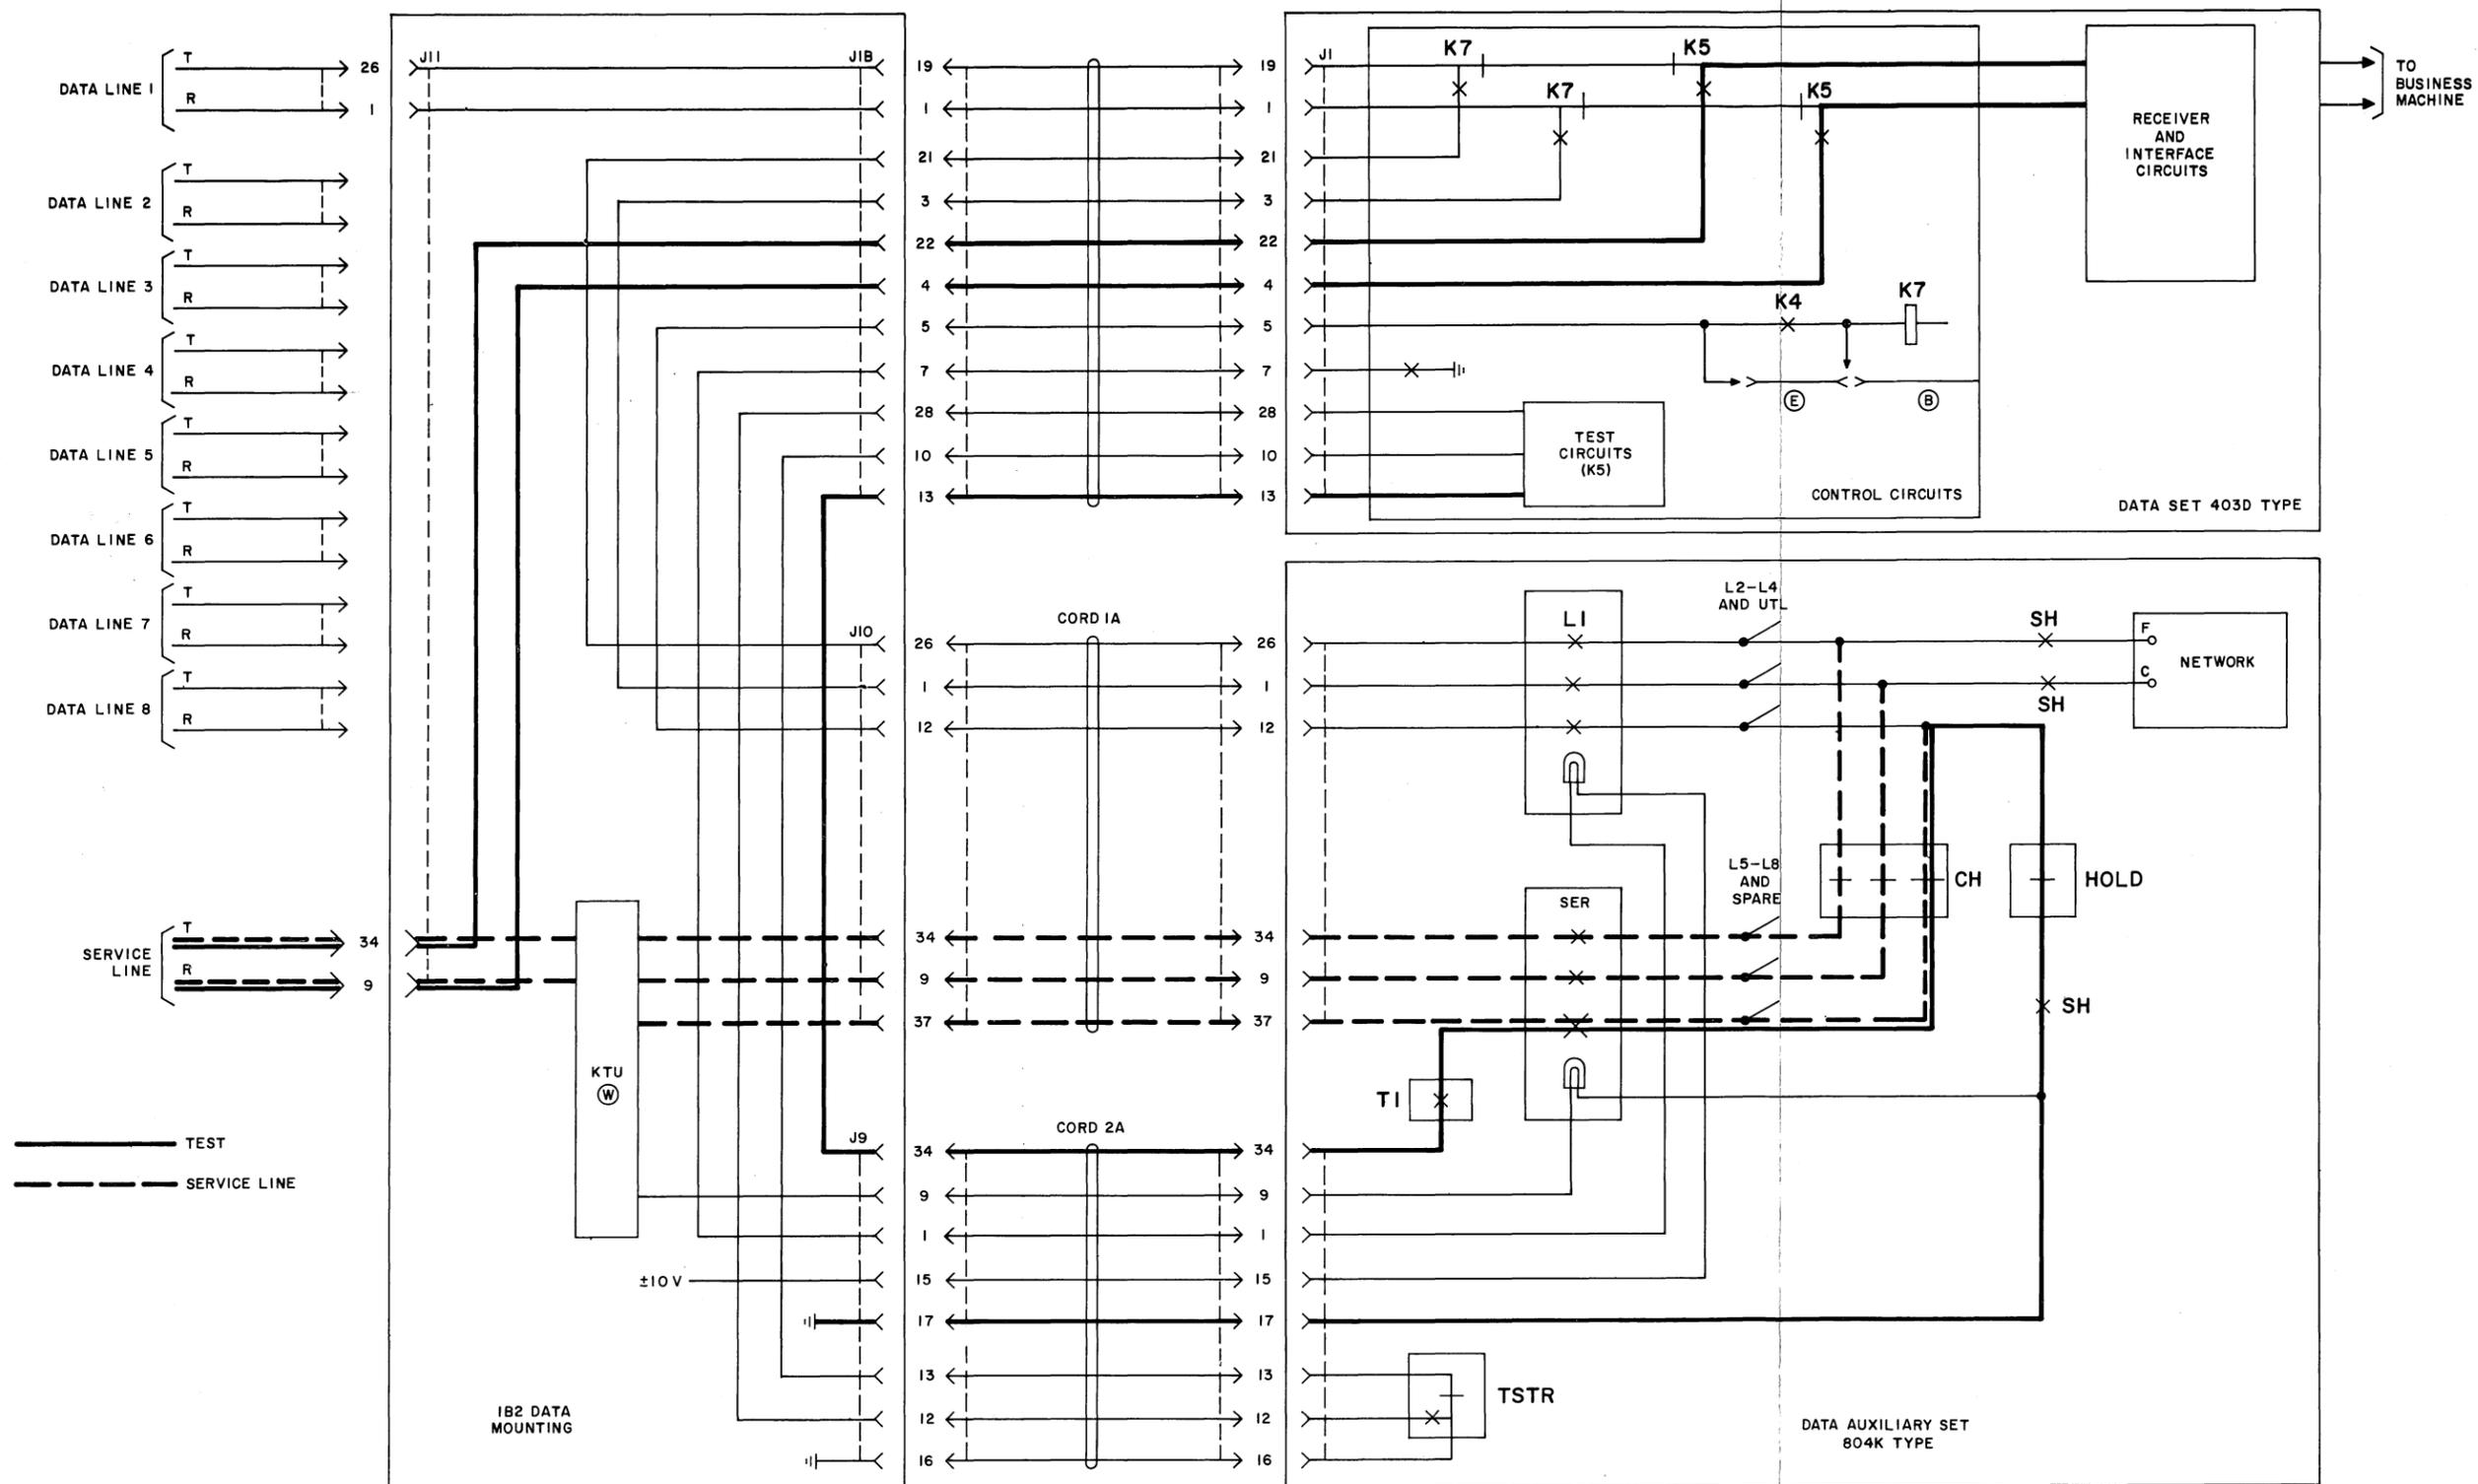

Fig. 5—Data Auxiliary Set 804K Type Functional Block Diagram of Test and Service Line
3.06 The handset must be off-hook and the Service Line (SER) key must be depressed before momentarily depressing the nonlocking T1 key. This activates the test circuitry in the data set and places the data set in the test mode and transfers the input of the data set to the T and R terminals of the service line. (See heavy weight line Fig. 5.)
3.08 The heavy weight dashed lines Fig. 5 illustrates functionally the talk function of the service line.